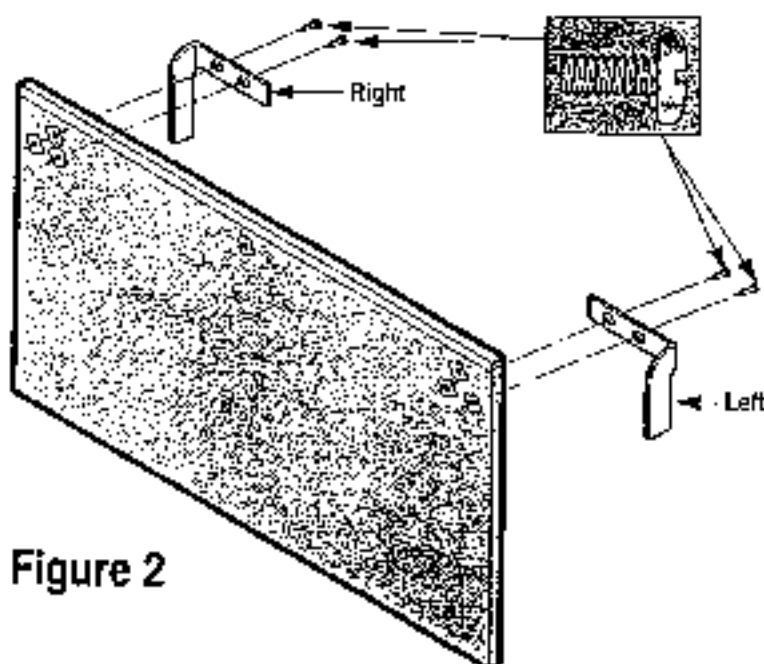

Figure 2
1. Loosely install left and right side stop brackets to back side (side with wide face of edge protector) of dumpfront panel using four 1/2" long screws (see Fig. 2).